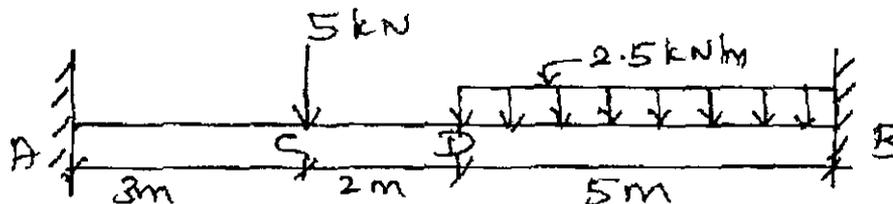

Fig. Q. 12(a)
12. (a) For the fixed beam shown in Fig. Q. 12(a) draw the shear force and bending moment diagrams. Also mark the points of contraflexure and maximum bending moment.